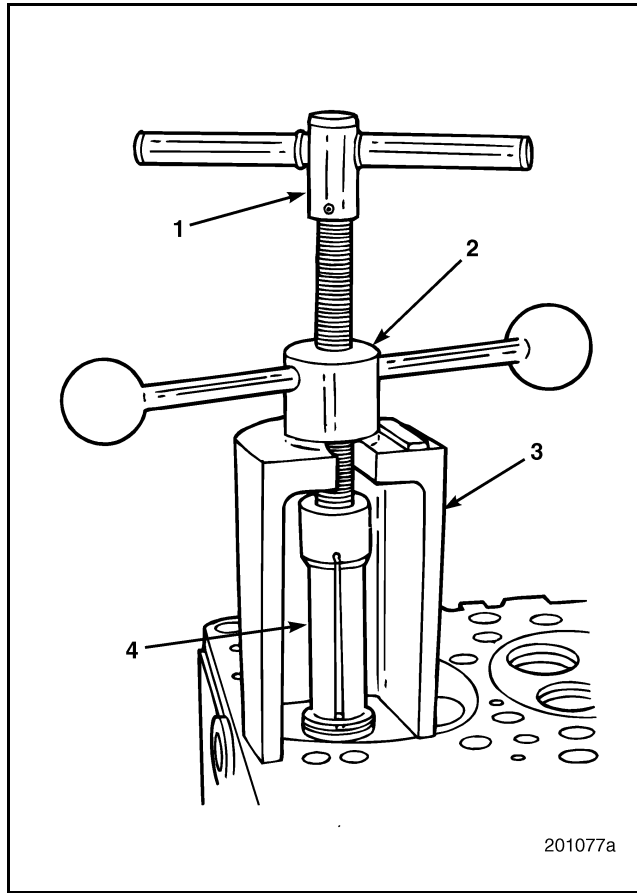

Figure 263 — Removing Valve Insert
4. Position the lifting bridge under the crank handle as shown in Figure 263. Turn the crank handle clockwise to remove the insert.